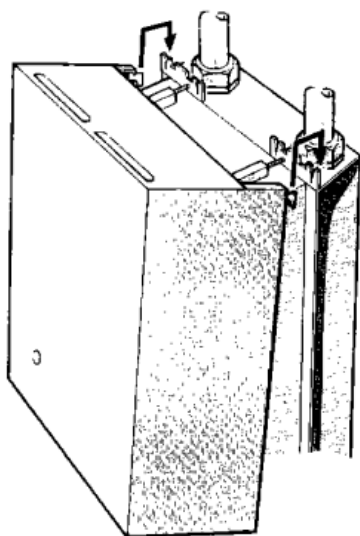

Fig. 14
1. Lift the outer case into position over the boiler, push back and lower to engage the case fixings into the top of the chassis sides, as shown in Fig.14.